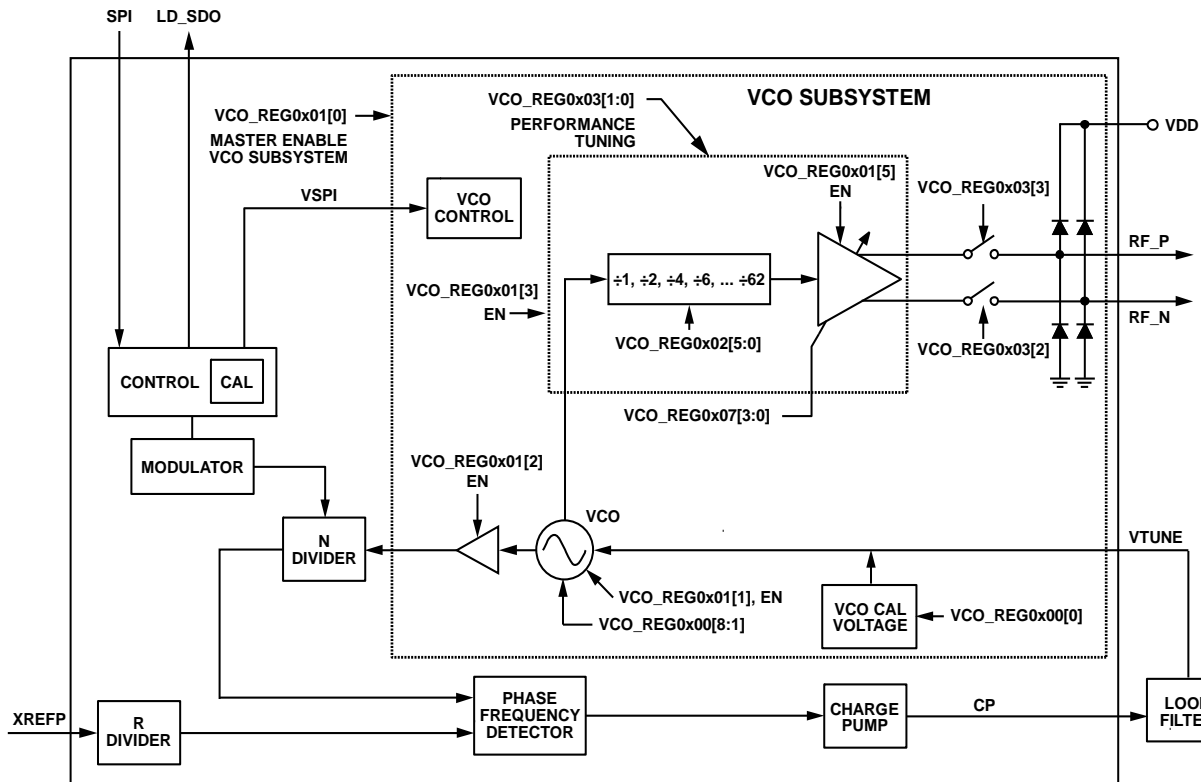

Figure 39. PLL and VCO Subsystems
All modes are VCO register programmable, as shown in Figure 39. One loop filter design can be used for the entire frequency of operation of the **HMC832**.
- The VCO SPI register, Register 0x05. This is required only for manual control of VCO if Register 0x0A[11] = 1, autocalibration is disabled, or to change the VCO output divider value (VCO\_REG 0x02), see Figure 39 for more information.
Also note that the VCO subsystem registers are not directly accessible. They are written to the VCO subsystem via PLL Register 0x05. See Figure 39 and the VCO Serial Port Interface (VSPI) section for more information about the VCO subsystem SPI.